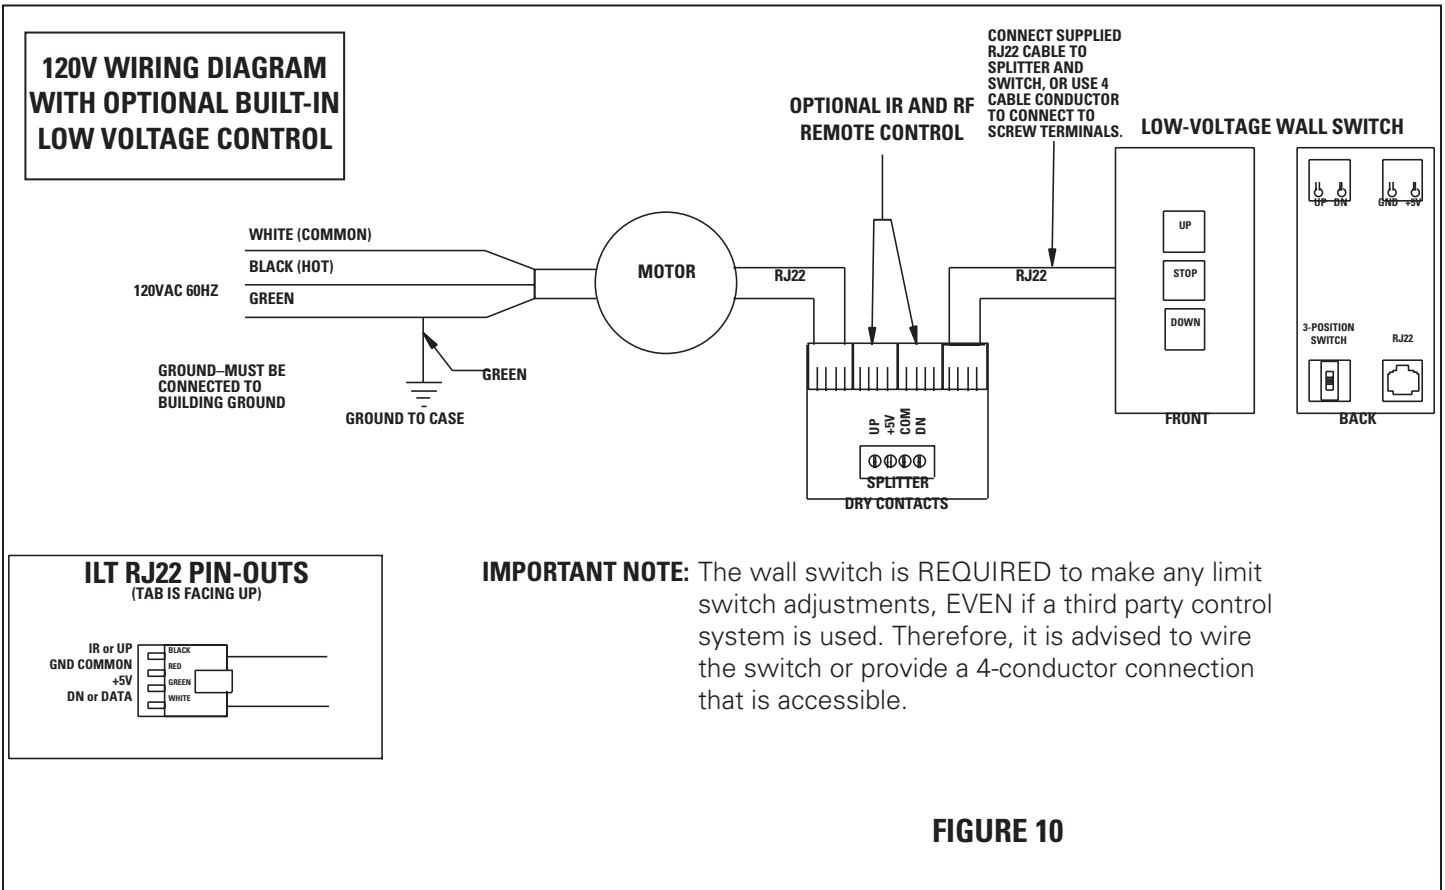
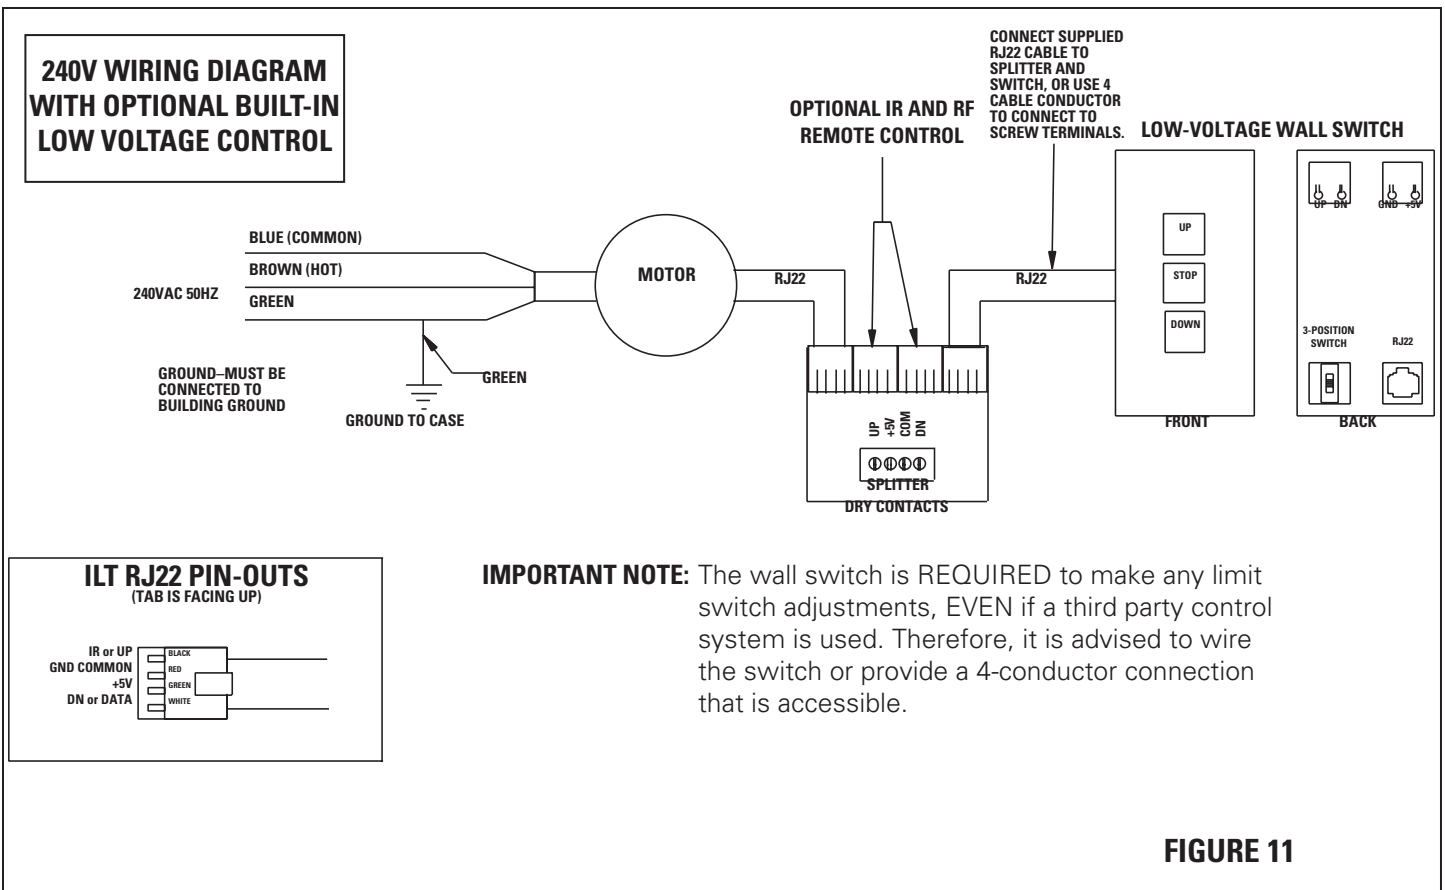

FIGURE 10
FIGURE 11
2. Locate small 3-position switch on back of wall switch. See Figure 10 for 120V screens or Figure 11 for 220/240V screens.